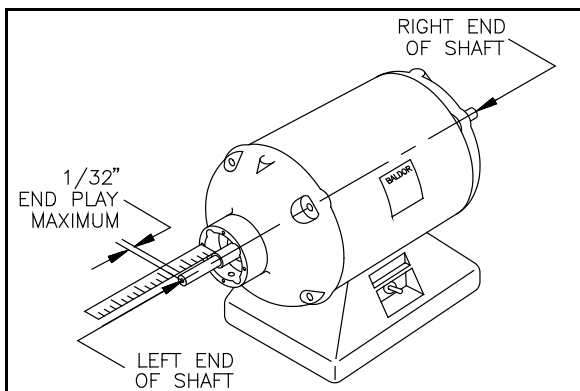

Figure 6. Shaft end play
- 4.2 Temporarily attach the adapter with two 10-32 x 1/2 screws. Put a folded shop towel in the palm of your hand and push firmly (50 lbs. force) on the right end of the shaft while measuring the protrusion of the left end. See Figure 6. You may need an assistant to push the shaft while you measure.